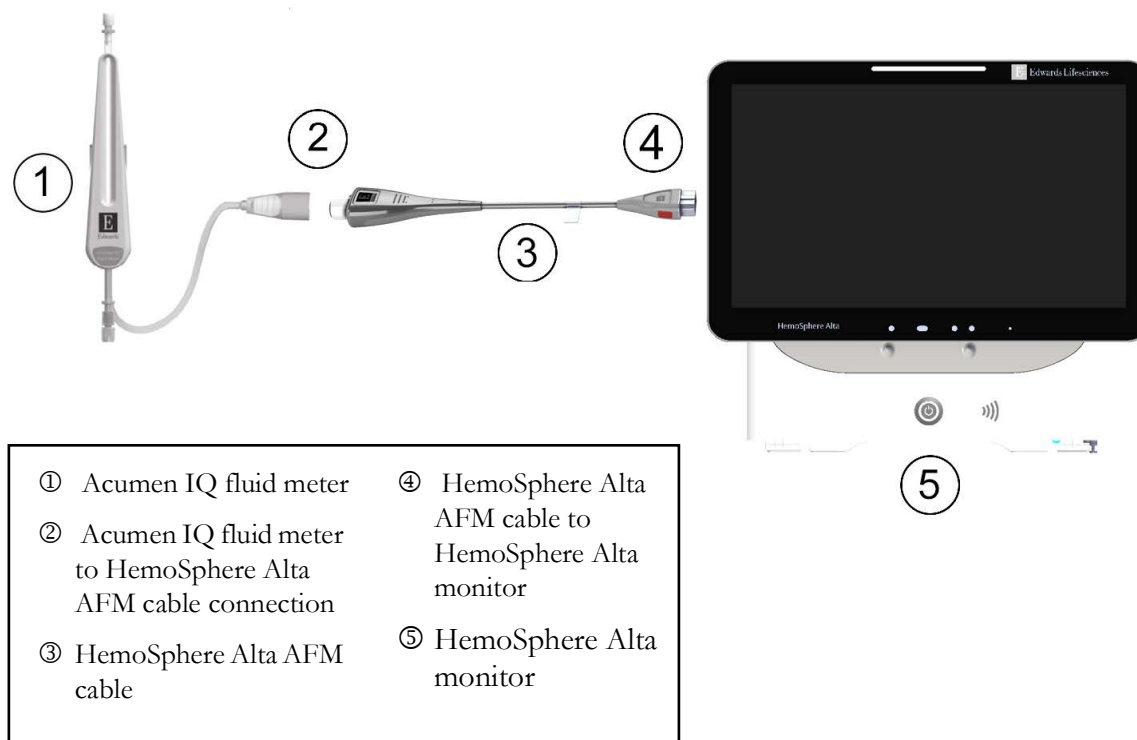

Figure 13-14 Acumen IQ fluid meter and HemoSphere Alta AFM cable connection overview
- 3 Connect the Acumen IQ fluid meter to the end of the Acumen AFM cable indicated by ② in Figure 13-14.